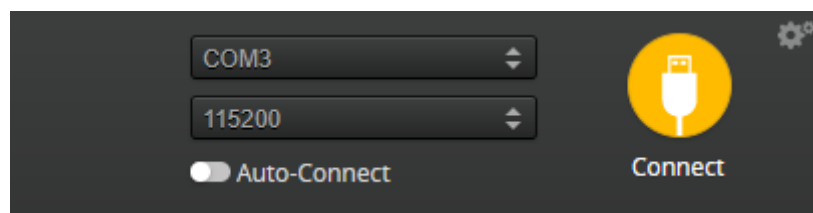

Figure 2 Betaflight if the controller is successfully recognised
5. Once you have installed the USB drivers you can plug your flight controller into your computer using the provided USB cable. If all works correctly Betaflight will recognise the controller has been connected and the top right of Betaflight will change to something like Figure 2